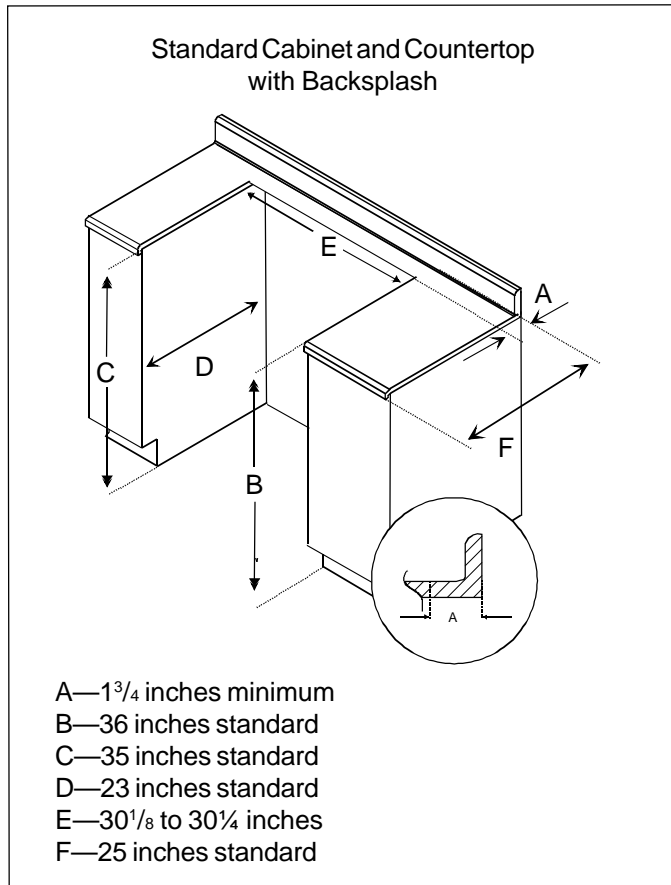

Figure 1
See Figures 1–3. Range extend beyond cabinet when installed. Using dimensions, prepare cabinet opening.
1. Measure (A) from back wall on right and left side of cabinet cutout. Mark measurements on floor and draw a straight line connecting marks.
- Measure $3\frac{1}{2}$ inches when installed with backsplash. See Figure 1.